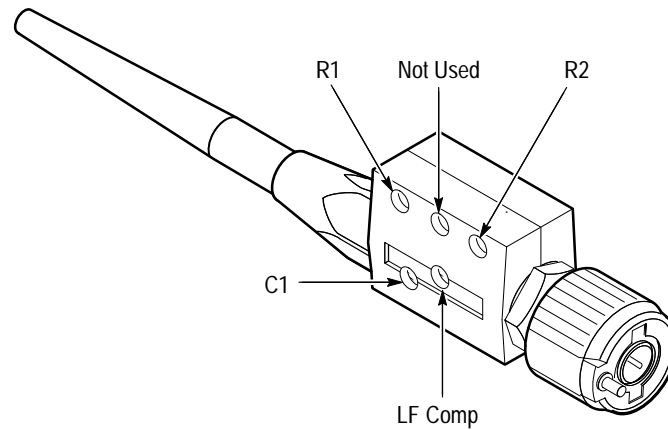

Figure 5-9: Locations of Probe Adjustments
- Locate the various adjustments in Figure 5-9.